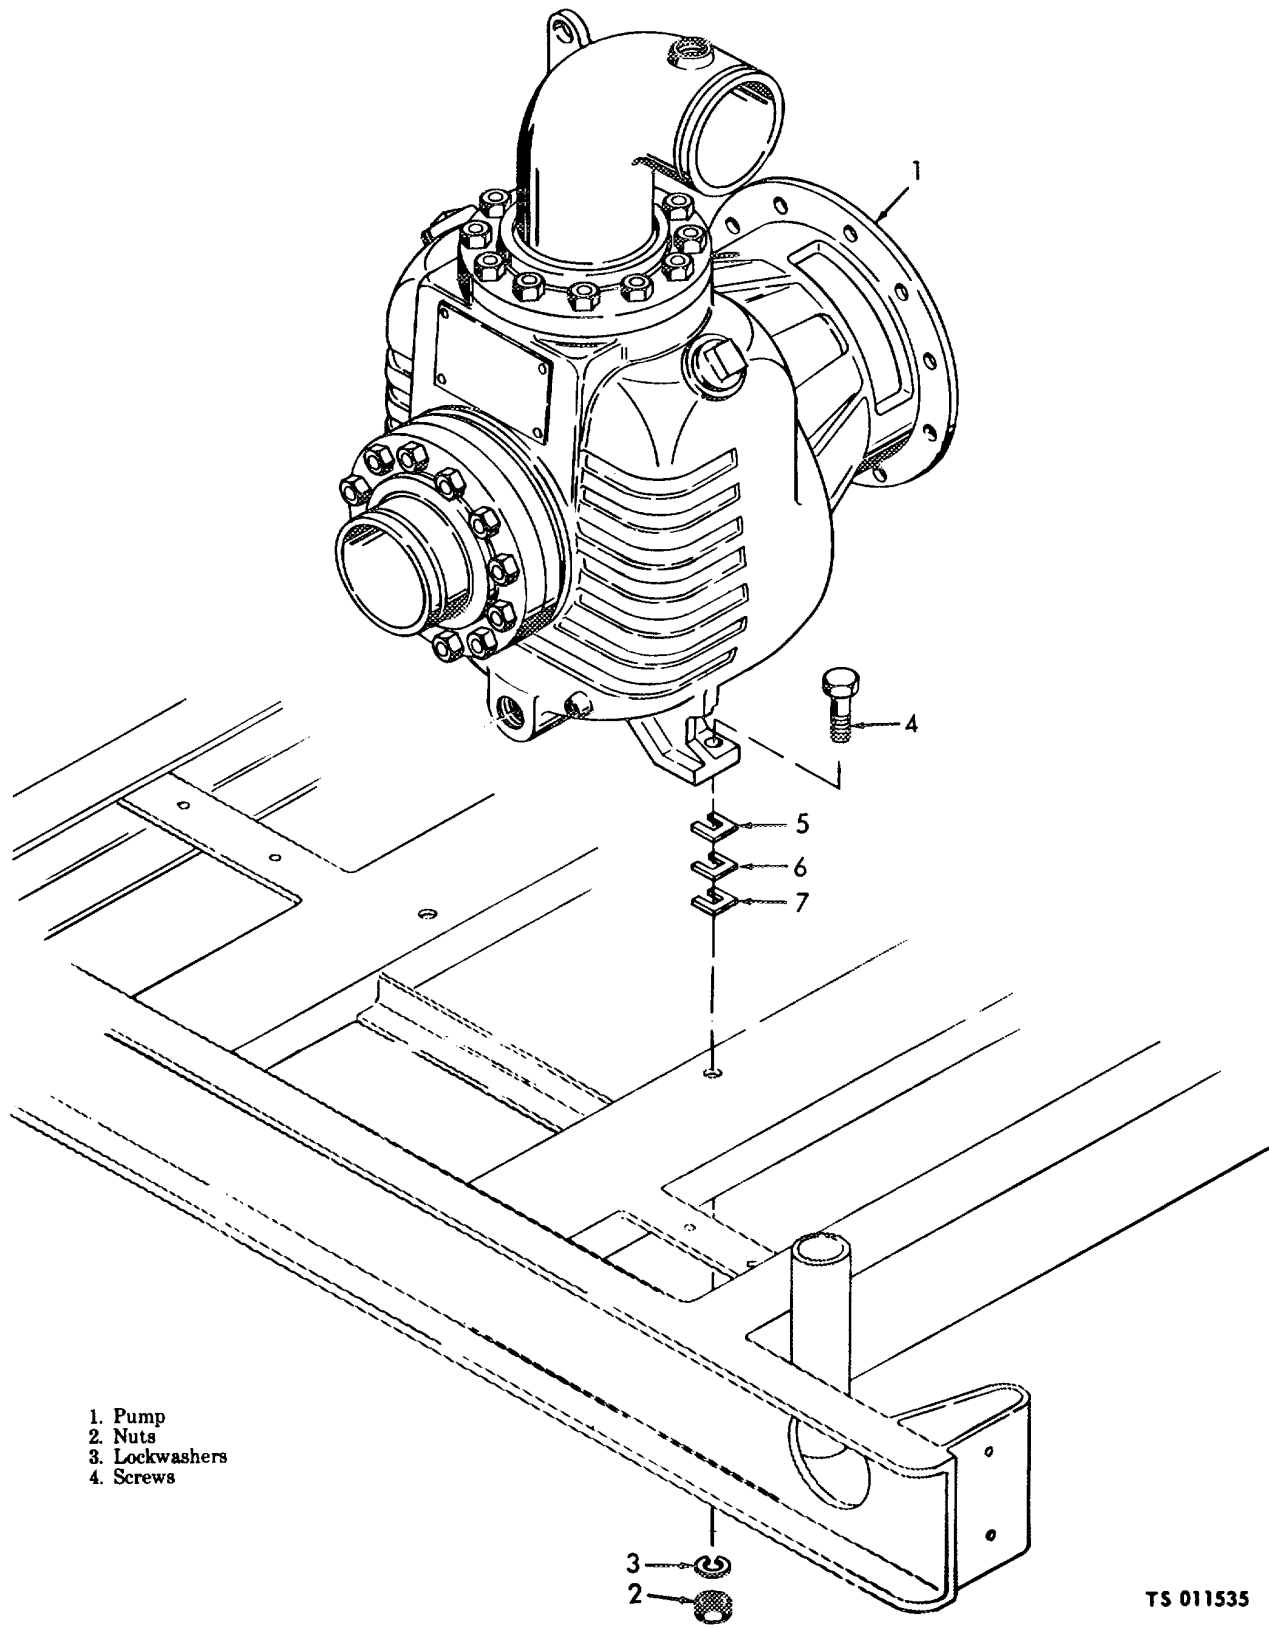
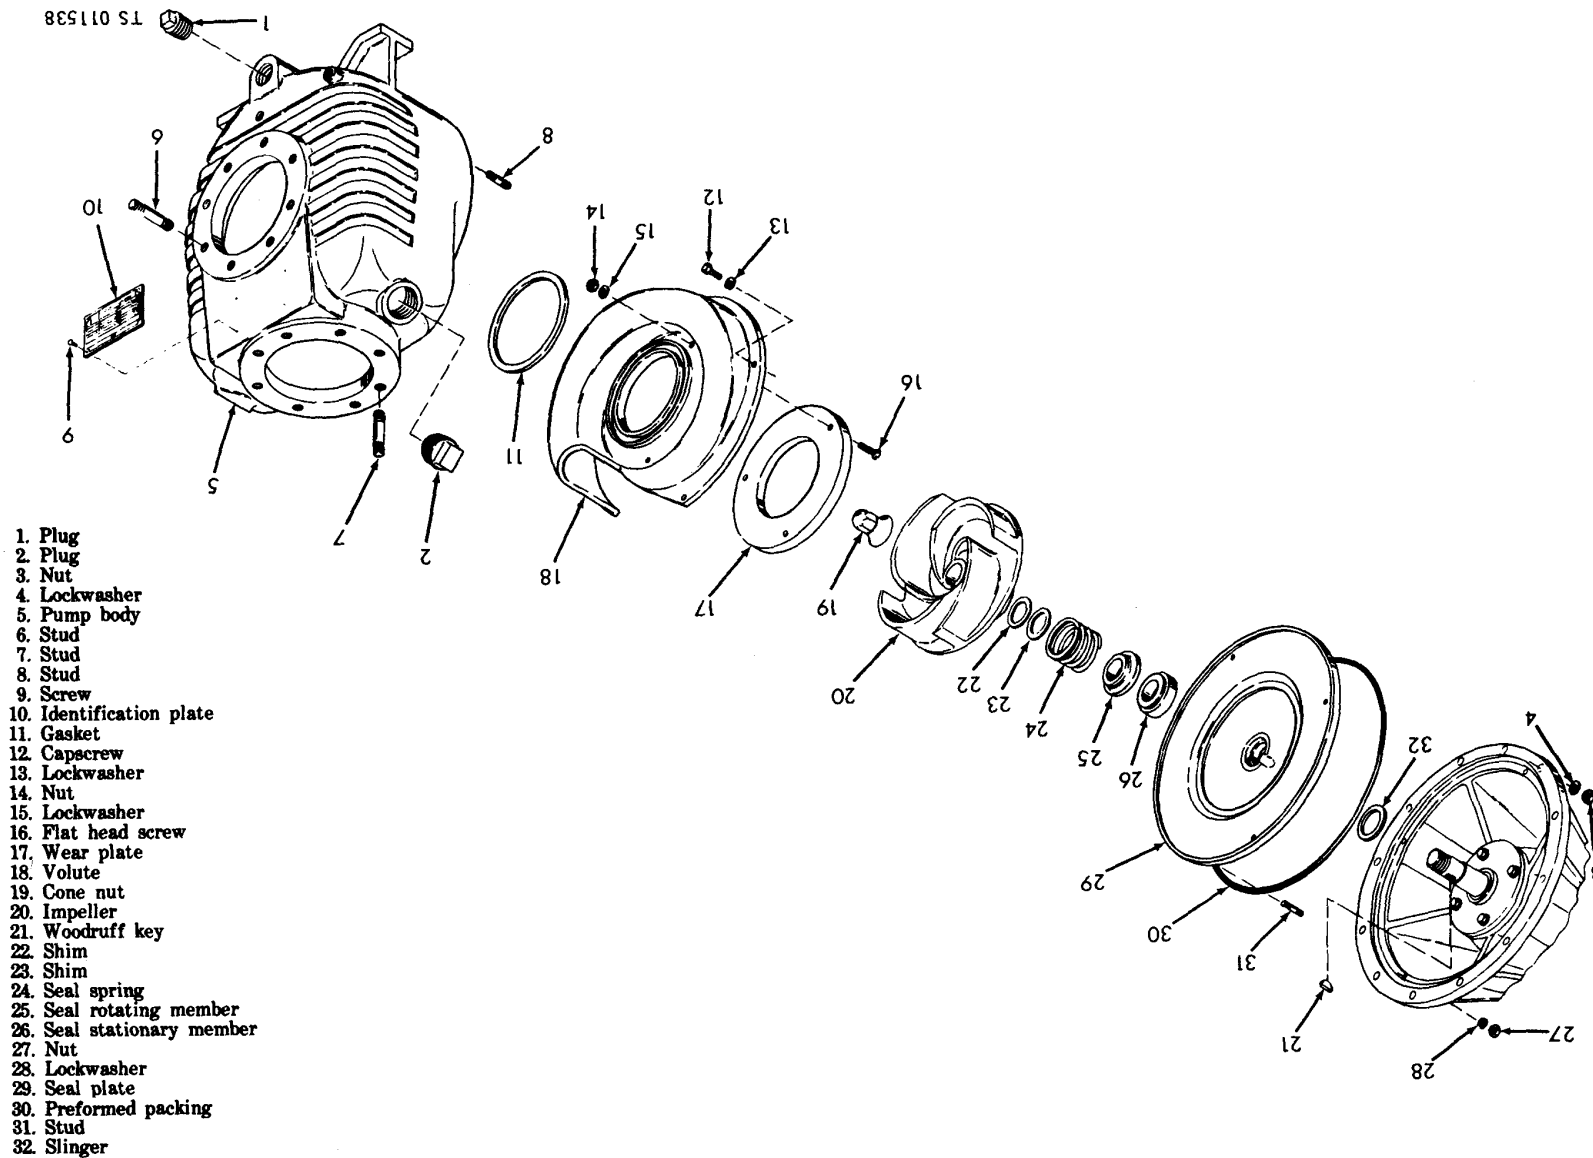

Figure 2-16. Centrifugal pump removal and installation.
Figure 2-17. Centrifugal pump disassembly and reassembly.
- a. Use a hoist or other lifting device to support the weight of the pump (1, fig. 2-16). Remove nuts (2), lockwasher (3), and screws (4) that secure the pump to the chassis frame.
- c. Disassemble the pump following the sequence of index numbers in figure 2-17.
- (1) Reassemble the pump by reversing the disassemble sequence in figure 2-17. Note the following:
- (a) Press the seal stationary member (28) into seal plate (29) before installing the plate. Lubricate the impeller shaft lightly with oil and slide the seal rotating member (25) and spring into place on the shaft.
- (b) If the same impeller (20), and wear plate (17) are reassembled and no clearance change is indicated, use shims (22 and 23) of the same thickness as those removed. If a new impeller and/or wear plate is installed, determine the shim thickness required to obtain a clearance of 0.010 to 0.020 inch between the impeller and wear plate as follows.
- (c) Install impeller (20) on shaft without shims. Be sure that impeller is seated firmly against the shaft shoulder.
- (d) Install volute (18, with wear plate (17) assembled, and secure with screws (12) and lockwasher (13).
- (e) Insert a feeler gage into the front opening of the volute and measure from the face of the impeller (20) to the face of the wear plate (17).
- (2) After reassembly, when using either new or used parts, recheck the clearance; it must be 0.010 to 0.020 inch (0.025 to 0.05 cm). Check the impeller shaft for free rotation. It must turn freely, without catching or binding. If binding is evident, disassemble the pump and correct the condition.
- (3) Use a hoist or other lifting device and install the pump on the chassis. Install nuts and lockwashers that secure the pump body to the bearing housing.
- (4) Install screws (4, fig. 2-16), lockwashers (3) and nuts (2) that secure pump (1) to the chassis.
If you are installing the same pump you removed, use shims (5, 6, and 7, fig. 2-16) having the same thickness as the ones removed. If a different pump is being installed, provide shims having proper thickness for sling the bearing housing with the flywheel housing of the engine.